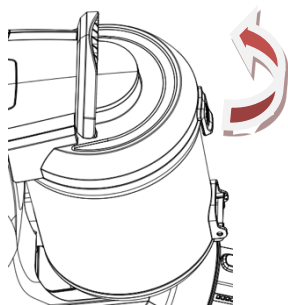

Fig.12
- 3) As in fig.12, rotate the HEPA cover to separate it from the chamber cover